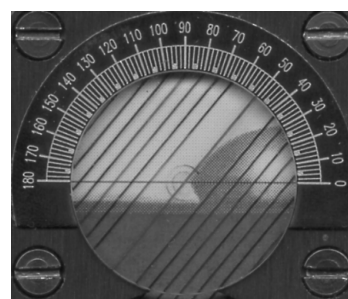

Figure 2.15
- Rotate the protractor until the centre line is aligned with the tangent at the point of reflection (Figure 2.15).